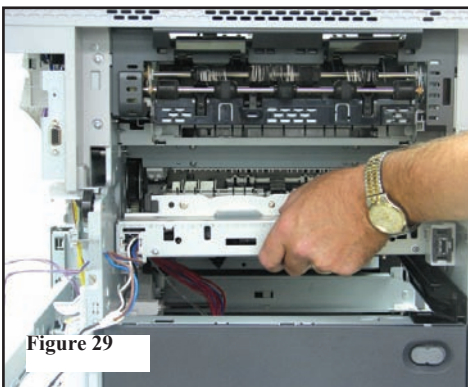

Figure 29
28. Lift out printer power supply from left and remove. (Figure 29)